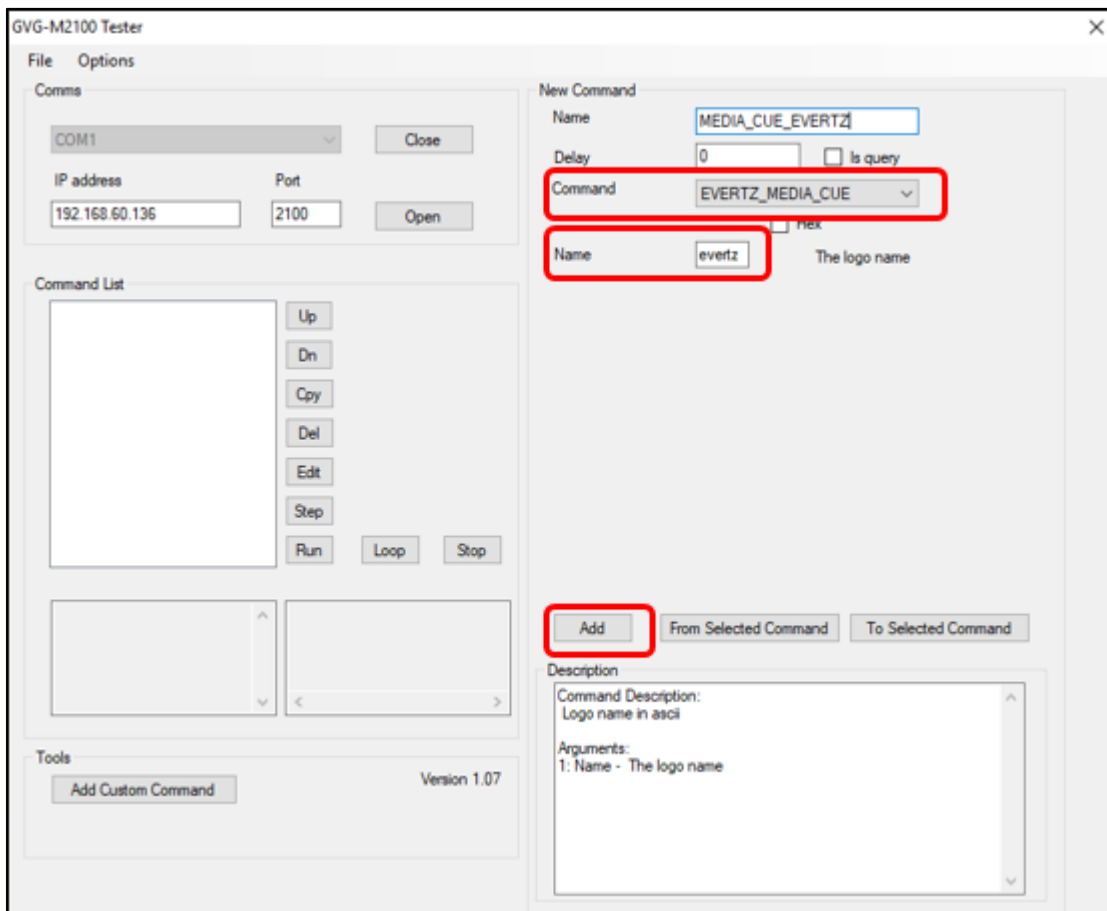

Figure 5-7: M2100 – Add Command to Display Logo Through PVW
- 1) Select '**EVERTZ_MEDIA_CUE**' in the 'Command' option, type the name of the logo and press 'Add' button, so the command will be moved/stored to the 'Command List' on the side of the window, as Figure 5-7.